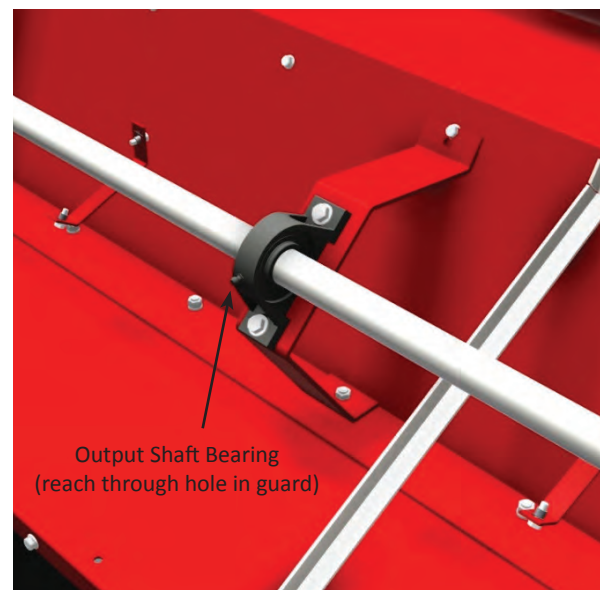

Figure 13: Output Shaft with Guard removed
3. Output shaft bearings, see Figure 13.